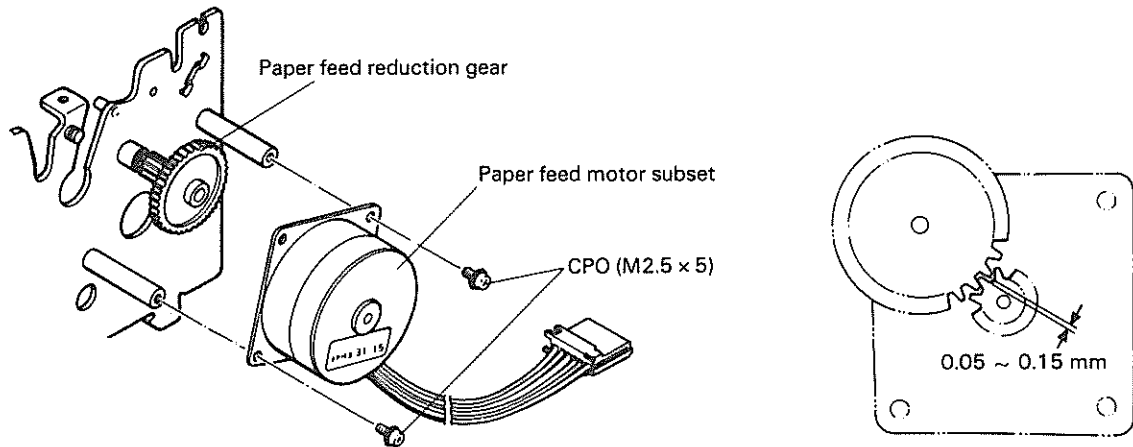

Fig. 4-28. Paper Feed Motor Adjustment
4.4.4 PAPER FEED MOTOR ADJUSTMENT (Fig. 4-28)